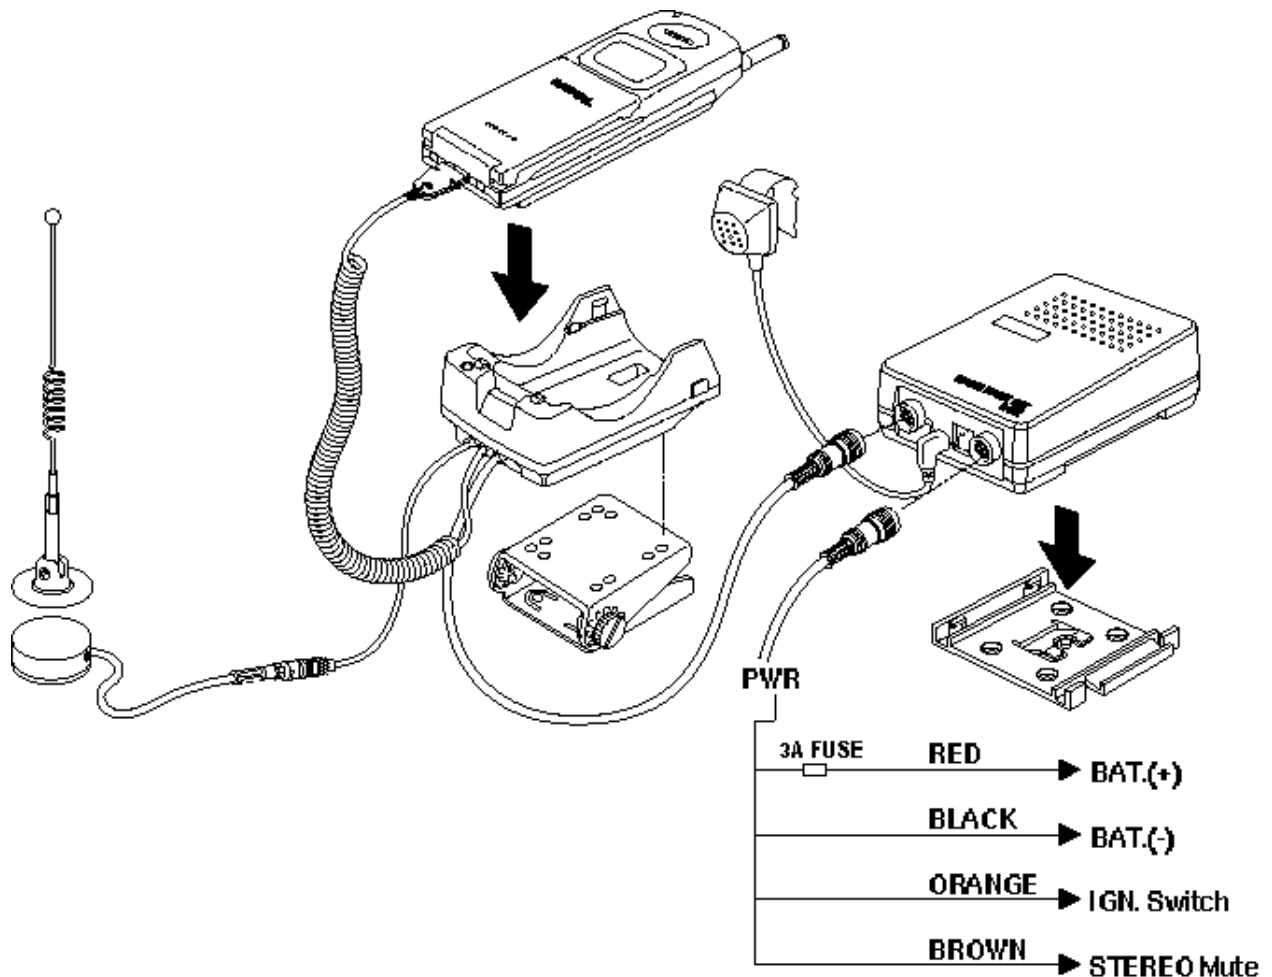

Figure 3-4 Cable Connections
1. Connect the cradle and the hands-free box with the data cable. See the figure 3-4.